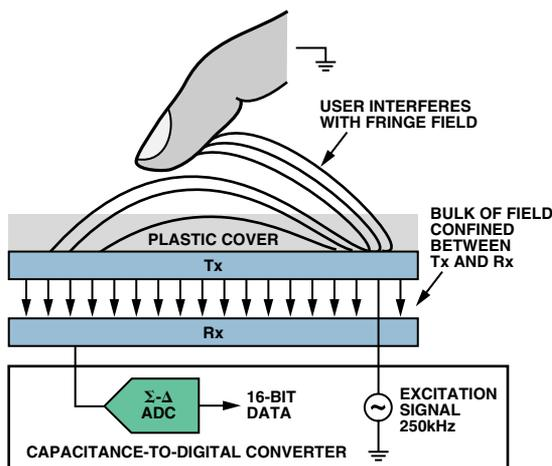

Figure 1. Sensing capacitance.
**A:** A basic sensor includes a receiver and a transmitter, each of which consists of metal traces formed on layers of a printed-circuit board (PCB). As shown in Figure 1, the AD714x has an on-chip excitation source, which is connected to the transmitter trace of the sensor. Between the receiver and the transmitter trace, an electric field is formed. Most of the field is concentrated between the two layers of the sensor PCB. However, a fringe electric field extends from the transmitter, out of the PCB, and terminates back at the receiver. The field strength at the receiver is measured by the on-chip sigma-delta capacitance-to-digital converter. The electrical environment changes when a human hand invades the fringe field, with a portion of the electric field being shunted to ground instead of terminating at the receiver. The resultant decrease in capacitance—on the order of femtofarads as compared to picofarads for the bulk of the electric field—is detected by the converter.